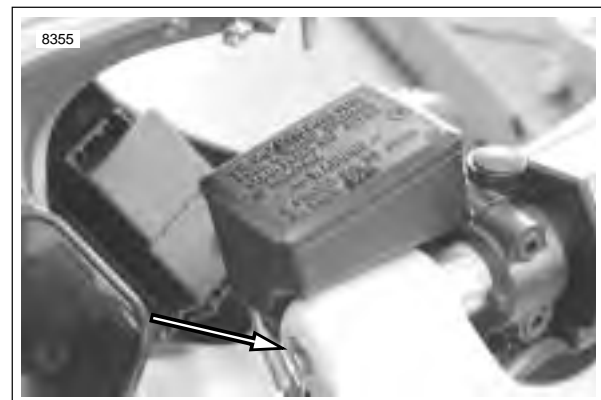

Figure 2-106. Handlebar Clip-on Mounting Fasteners (right clip-on shown)
3. See Figure 2-106. Remove clip-on assembly.